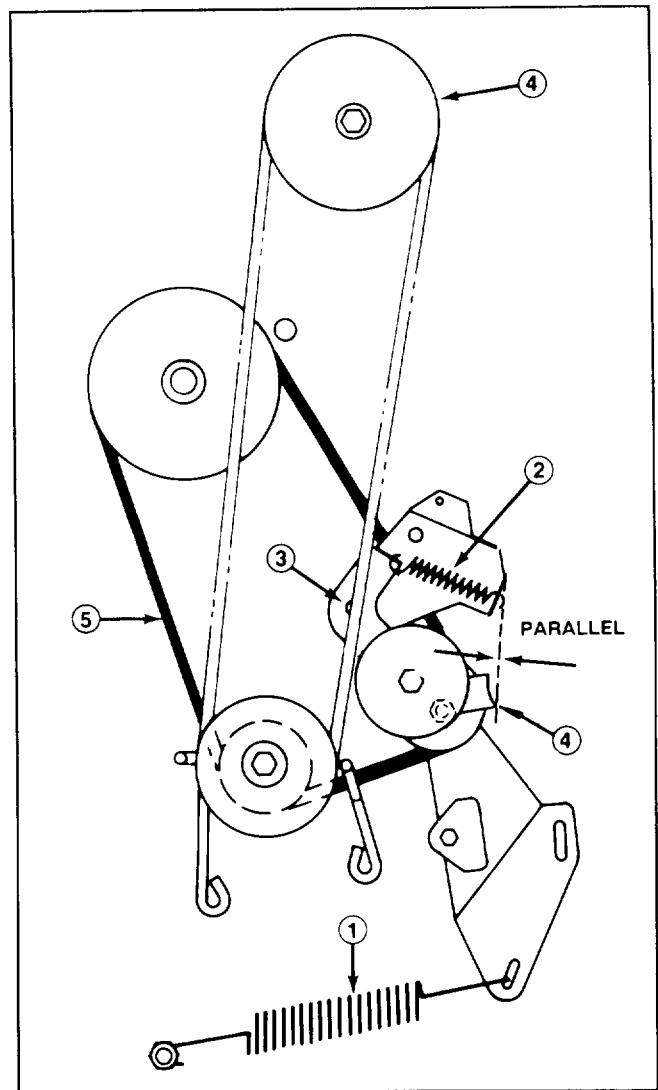

Figure 20
7. Unhook large traction spring from mounting screw (Fig. 20). Use caution when removing spring as it is heavily tensioned.
8. Unhook idler spring from idler bracket (Fig. 20).
9. Remove locknut and washer securing idler bracket to frame and remove bracket (Fig. 20).
10. Loosen the locknut on pulley until belt guide can be removed (Fig. 20). Remove belt from all pulleys.
- Note:** When reinstalling belt guide to idler pulley, make sure edge of belt guide is parallel to belt as shown in Figure 20.